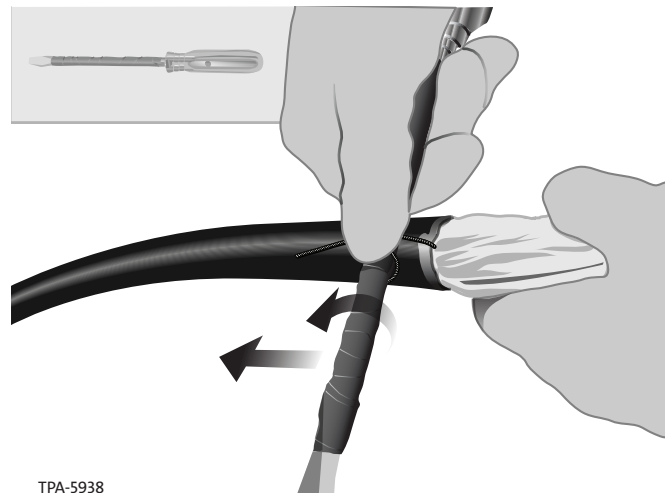

Figure 16
Step 6: Wrap rip cord (one at a time) around a screwdriver wrapped with friction tape and pull cord to the tape mark (Figure 16).